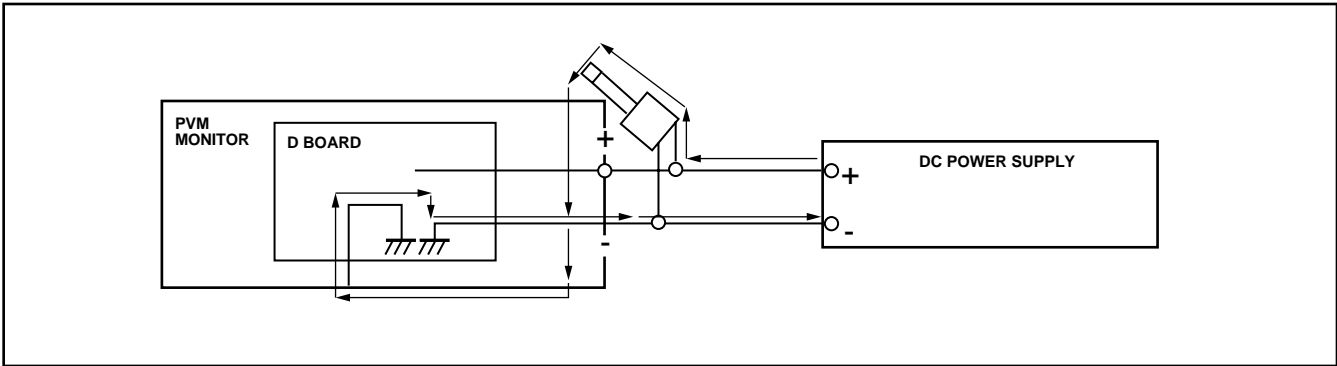

Figure 1
- The positive (+) terminal of the external power supply accidentally touches chassis of the PVM monitor. See Figure 1.